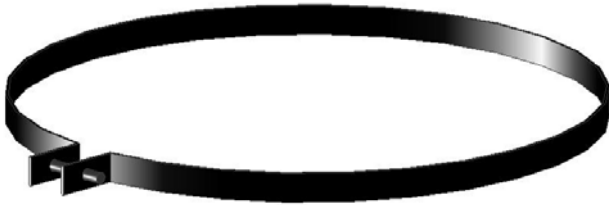

Fig. 16 Clamping band
**PRECAUTION:** When installing a cup packing, be careful not to damage or turn back the lip. This can be avoided by making a clamping band as shown in Fig. 16 from 16-gauge band iron, 1/2" to 1/8" wide. The ends of this band iron with two holes pierced to receive an ordinary stove bolt should be bent so that the circumference is a little less from bend to bend than the circumference of the piston of the pneumatic die cushion unit on which it is to be use.